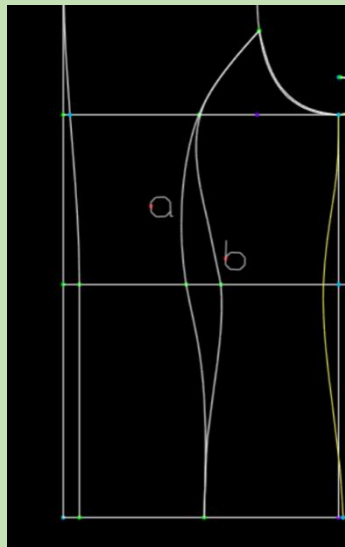

Figure 4-16
b.As shown in the following figure, when making a curve along an existing curve a and pressing the Shift key to draw curve b, it will coincide with the original curve (as shown in Figure 4-16).